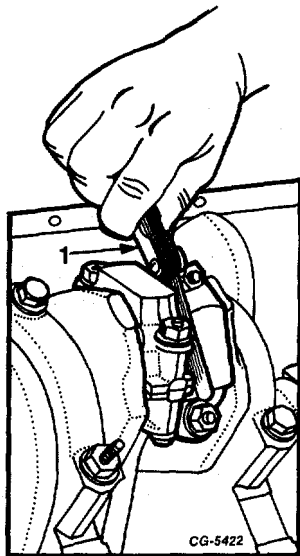

Fig. 129. Checking Connecting Rod End Clearance
6. Check the connecting rod end clearance using a feeler gauge as shown in Figure 129. Excessive clearance may require replacement of rods or shaft. The check should be made to make certain the specified running clearance exists. Lack of clearance could indicate a damaged rod or a rod bearing out of position.